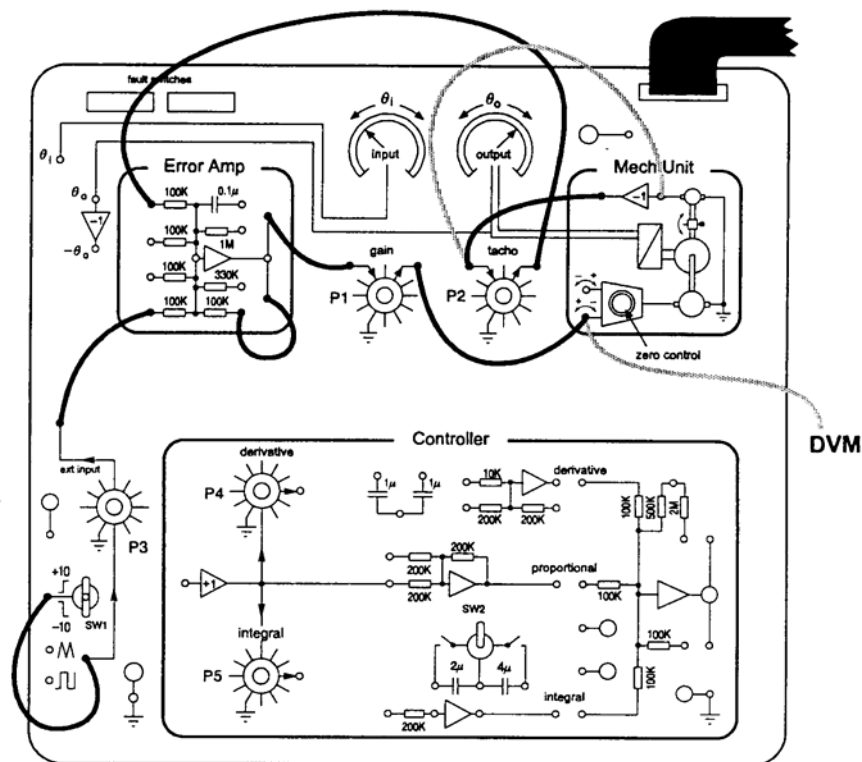

Fig. 2 Connection diagram for speed control system
- 2) The connection diagram as in Fig. 2 represents a speed control system which can be made with the 33-002. Set P_2 (tachometer) to zero and set the amplifier feedback resistor to $100\text{ K}\Omega$, this gives the gain ($G = 1$). Set P_1 to 100. Set SW1 up to +10 and adjust P_3 to run the motor at 1000 r/min (31.25 r/min at output).